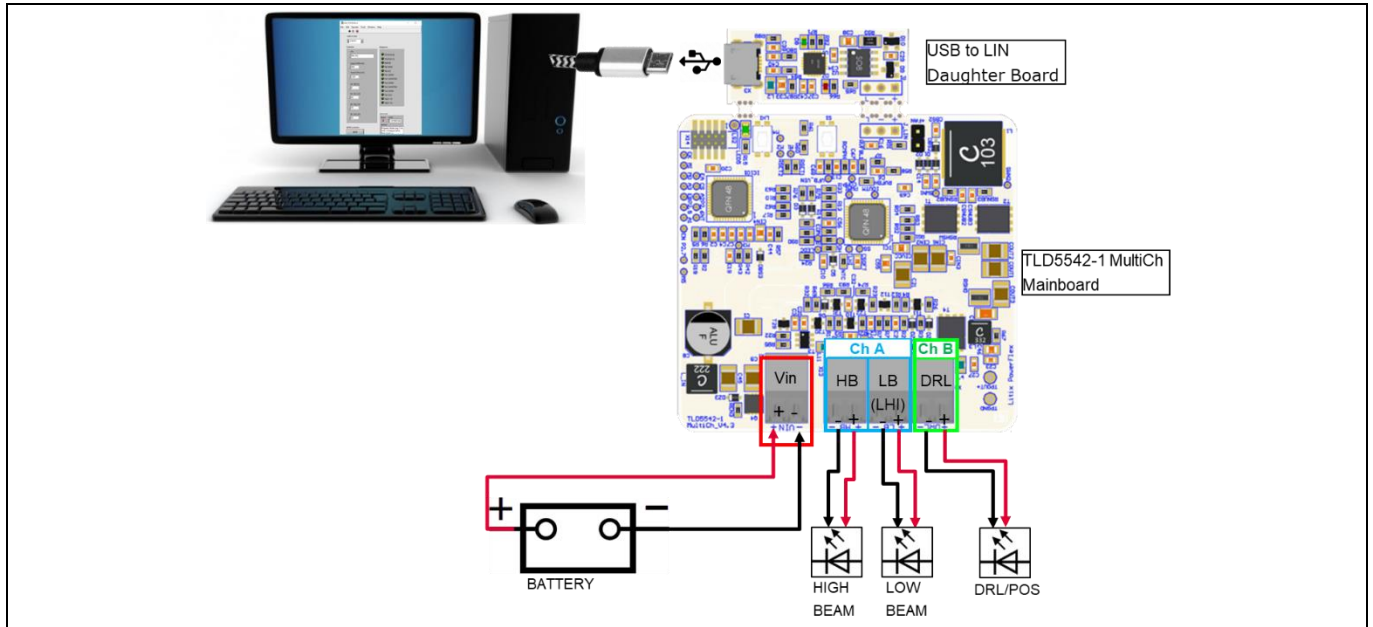

Figure 5 Connect a microUSB cable from the PC to the evalBoard
5. Connect a micro USB cable from the TLD5542-1 evalboard to the PC (Figure 5)